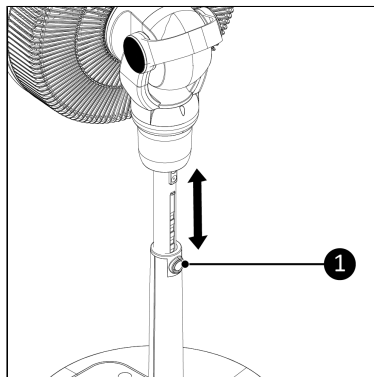

Figure 30.
1. Press the Height adjust button (Figure 30, pos. 1) on the stand tube and pull up or push down the fan to adjust the height.